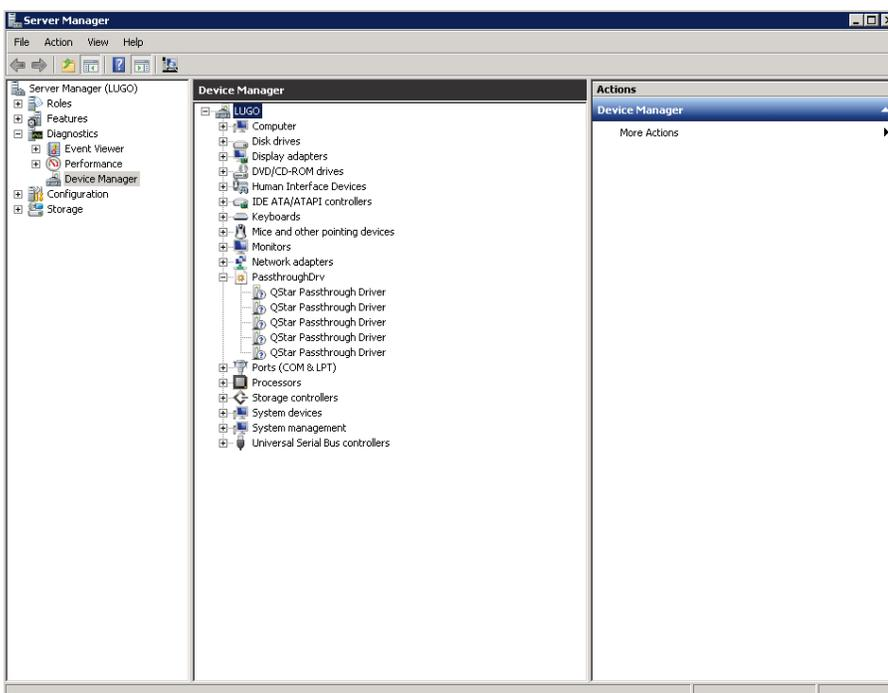

Figure 11. QStar pass-through driver installed for an MSL6480 Tape Library and four LTO-6 tape drives
14. Once the system has rebooted, you can verify that QStar ASM has successfully claimed the devices by opening the Windows Device Manager. All devices claimed by QStar ASM will be listed under **PassthroughDrv**. See **figure 11** as an example.